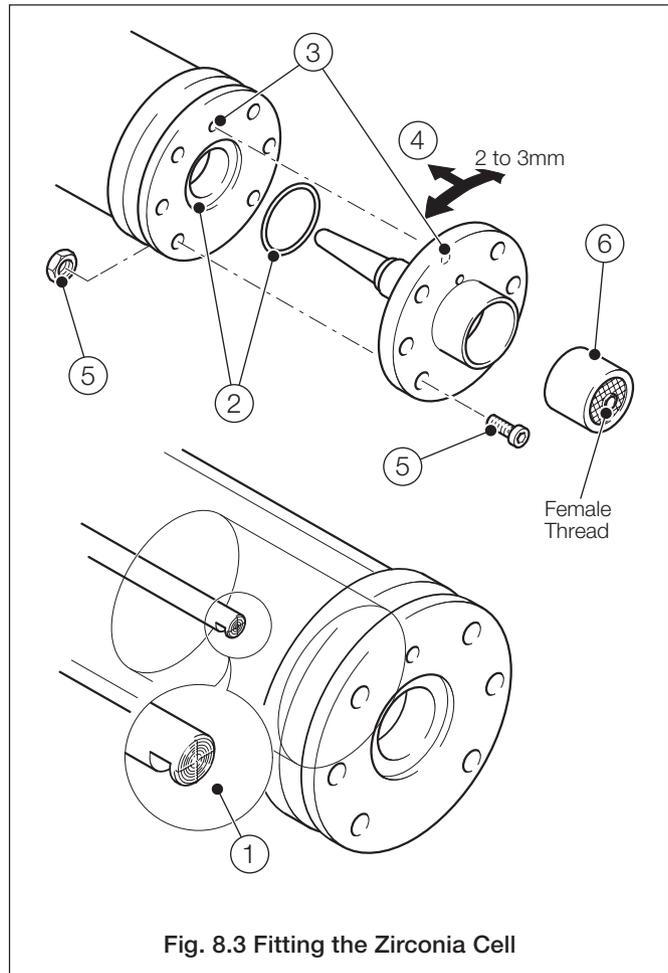

Fig. 8.3 Fitting the Zirconia Cell
8.4 Fitting the Zirconia Cell (all Probes) – Fig. 8.3
- ① Examine the contact on the inner electrode insulator. The connection must appear as a flat helix, supported centrally on the insulator, when viewed through the hole at the end of the probe body.
- ② Thoroughly clean the end of the probe body, in particular the 'O' ring recess and the central hole, using a dry lint-free cloth only. Unless the 'O' ring is scratched or damaged, do not attempt to remove it for cleaning.
Referring to Fig. 8.3: